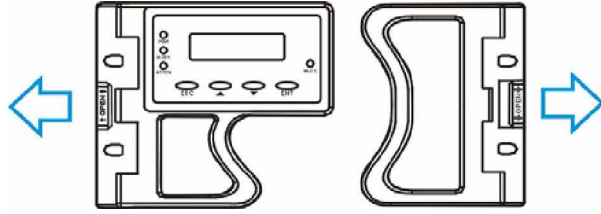

Figure 5- 11: Forearm Handle Locking Mechanism
- Š **Forearm handles:** If the hard drive is behind either the left or right forearm handle, make sure that the locking mechanism on the side of the handle is first released prior to opening the handle itself. (See **Figure 5- 11**) The locking mechanism must also be released in order to close the handle. Therefore, after the new drive has been installed, it will be necessary to release the locking mechanism on the handle prior to closing it. For more information, please refer to **Section 1.5** in **Chapter 1**.